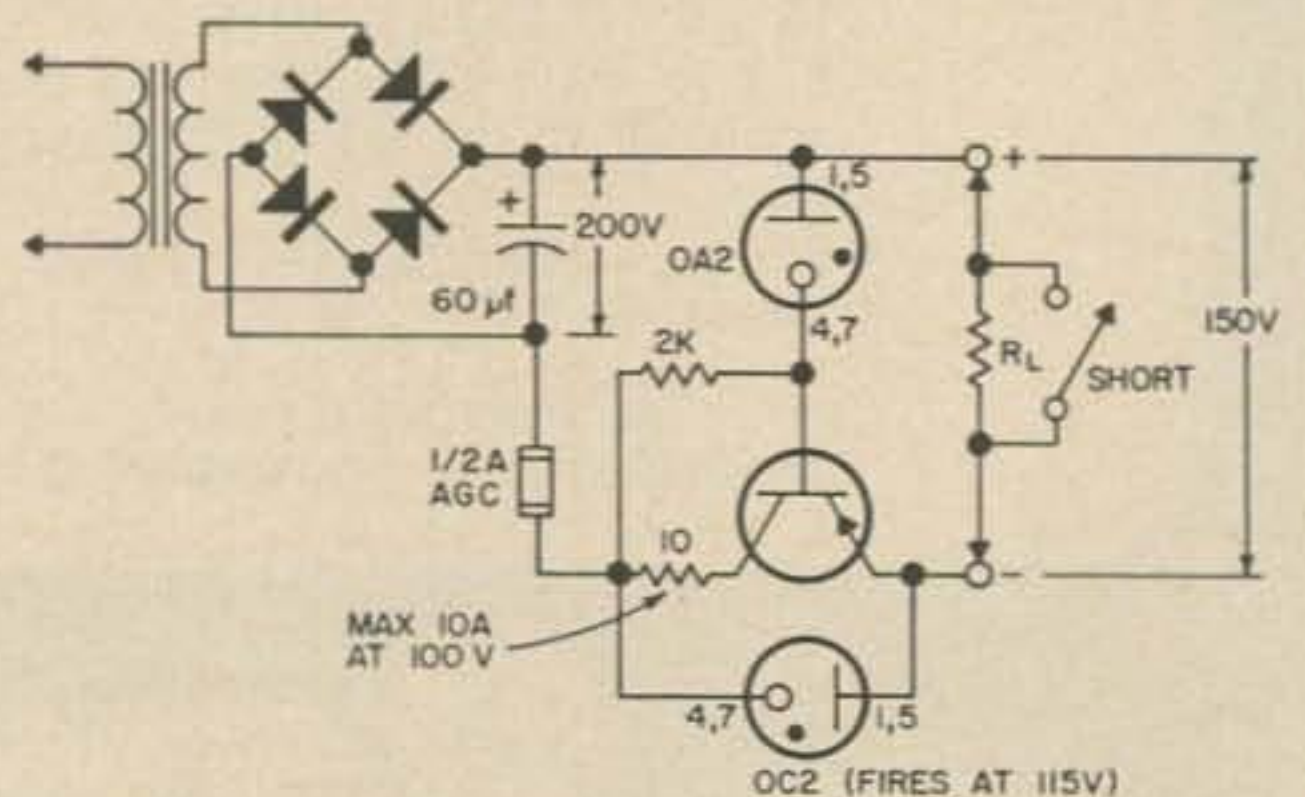

Fig. 1B. Over-current and over-voltage protection.
2. When the regulator is feeding a capacitive load, the charging transient is about as bad as a shorted load, and when the OA2 fired abruptly in the circuit of Fig. 1B, there was high voltage across the pass transistor at the same time there was reverse voltage on the base. (For why this is bad, see the Motorola Power Transistor Handbook under "second breakdown".) The 15 ohm resistor and the 1N334ORA protective diode handle this. An OC2 may not be a good enough protective shunt, in that its internal resistance is about 100 ohms, compared to the 15 ohms in series with the breakdown characteristic of the transistor (negative resistance for some types, about